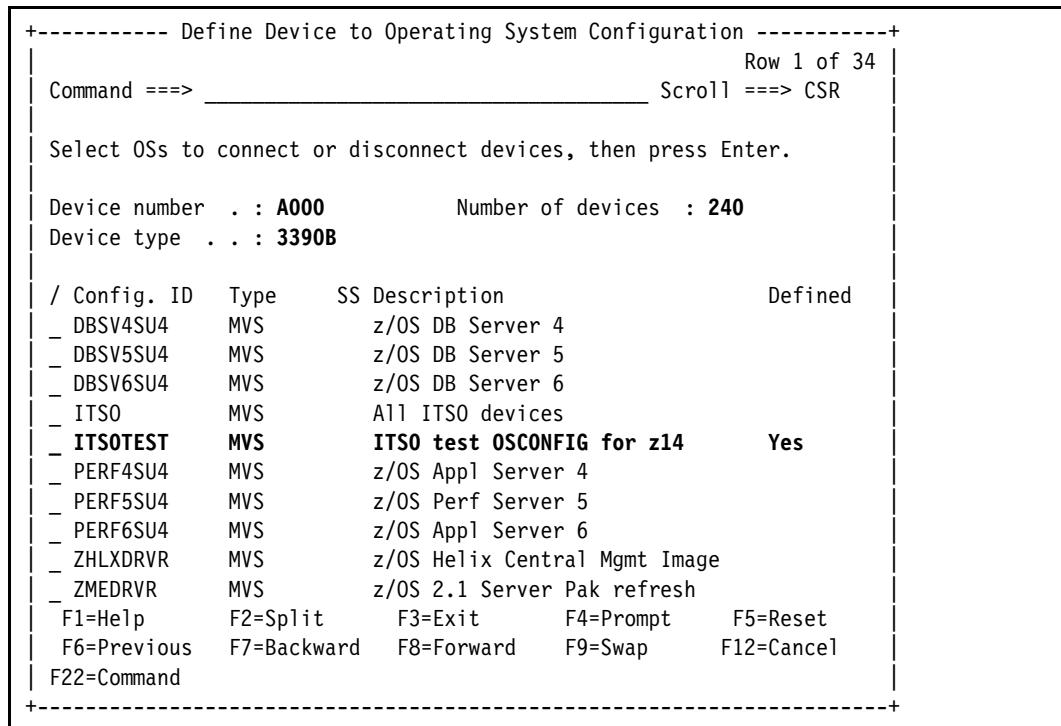

Figure 12-19 I/O Devices: Assign/Unassign Device to Esoteric completed
9. The final panel is now displayed showing that the devices are defined to the OS CONFIG (Figure 12-19). Press **Enter** to return to the I/O Device List.